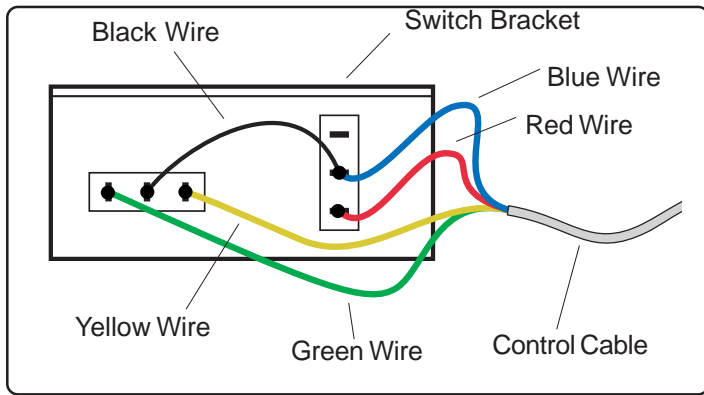

Figure 3. Wire Connections
6. Connect control cable to switches in switch bracket. (See figure 3)